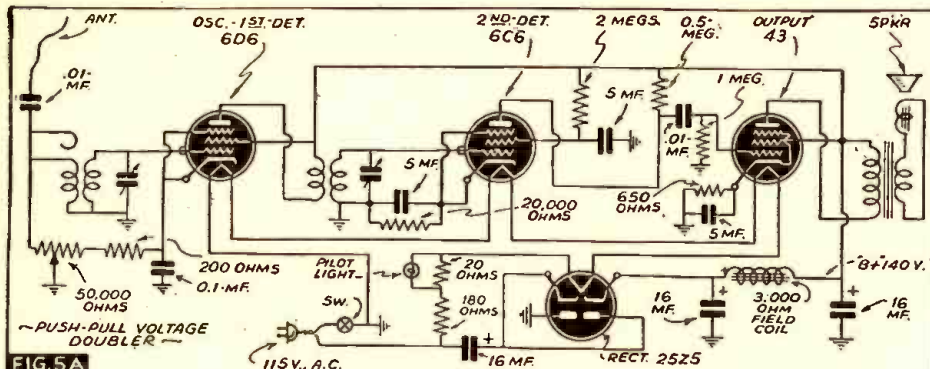
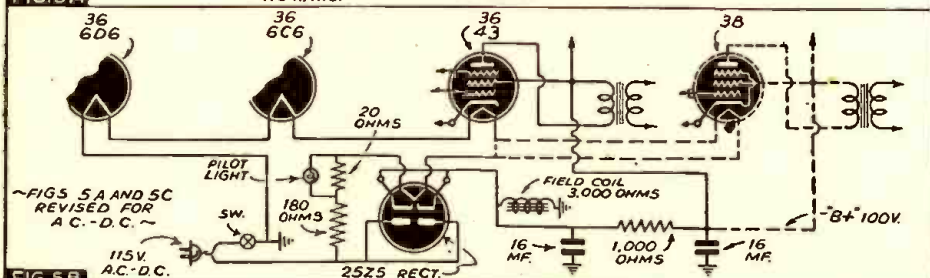
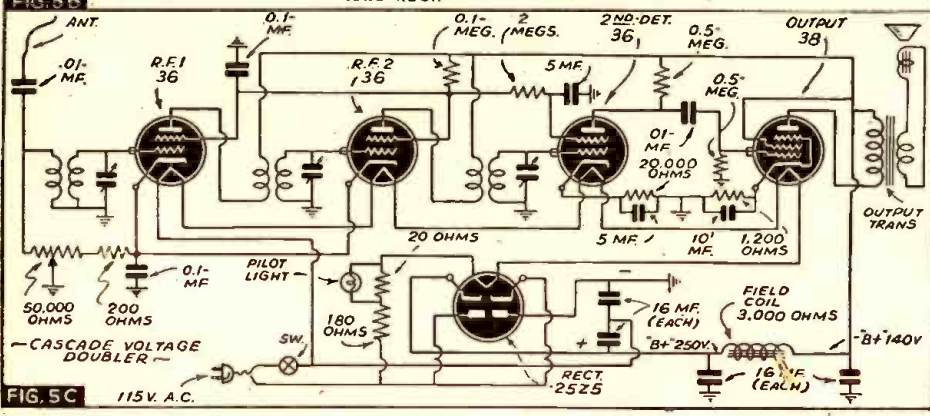

FIG. 5A
FIG. 5B
FIG. 5C
(4) Special Circuits and Short-Cuts.—Many times the Serviceman will come across a transformerless midget radio set that will operate on A.C. only. Figures 5A and 5C show such a circuit. Here we see 2 typical circuits used in midget "radios" which utilize a voltage doubler circuit, to secure "B" power for the set, instead of the usual half-wave rectifier.
Figure 5A shows a circuit using a push-pull voltage doubler circuit, while Fig. 5C shows a circuit using a cascade voltage doubler circuit. In Fig. 5B we see how these circuits can be rewired so as to operate universally. Note that the field is connected right across the output of the half-wave rectifier, and in place of the field we connect a 1,000-ohm resistor.